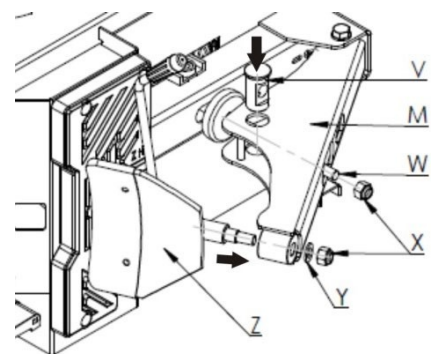

Fig. 10
- Pull the heel breaker arm out, then bring the arm in and insert the piston rod (W, fig.10) into the piston rod holder (V, fig.10), now tighten the nut (X, fig.10) firmly using an air drill.
- Now insert the heel breaker blade (Z, fig.10) and secure it firmly with the washer (Y, fig.10) and nut (X, fig.10).